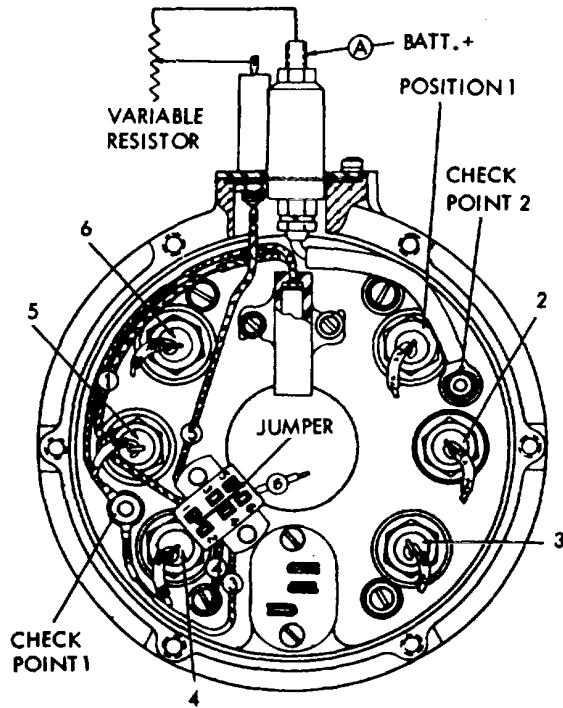

Figure 3-3. Diode rectifier test
(4) Negative heat sink-rectifier test (fig. 3-3). The negative heat sink is grounded to the housing by means of its mounting screws and stud. Be sure that these screws are clean and tight so the negative heat sink makes good contact with the housing. Connect negative lead of ohmmeter to test point one and touch positive lead to terminals 4, 5, and 6. A high resistance reading should be obtained. If a low resistance reading is obtained, the diode is shorted and must be replaced.